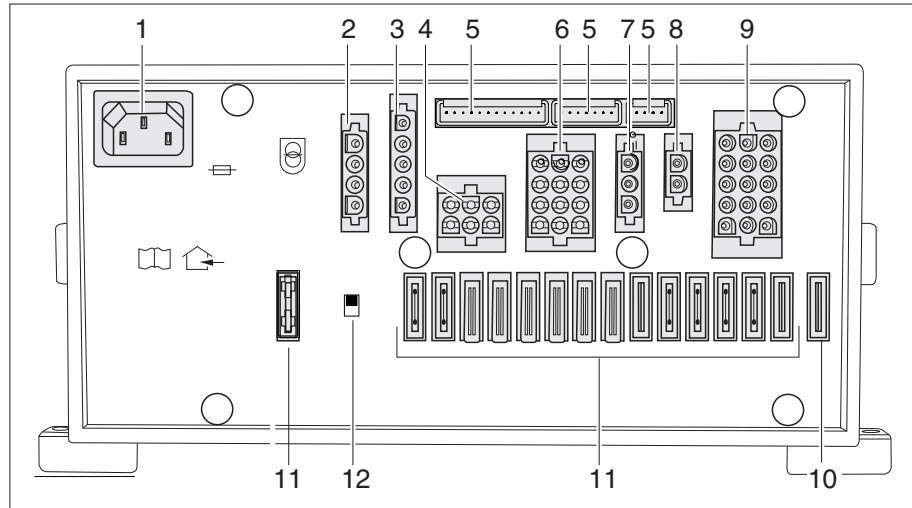

Fig. 244 Transformer/rectifier (EBL 111)
- ▷ The battery cut-off switch (Fig. 244,12) disconnects all the appliances that are connected to the transformer/rectifier from the 12 V network.